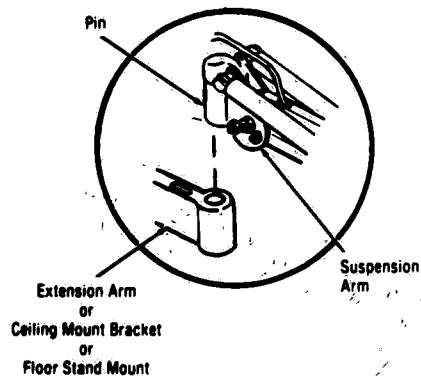

Figure 4-14. REMOVING SUSPENSION ARM.
- a. Floor, ceiling or wall mounted lights (see Figure 4-14):